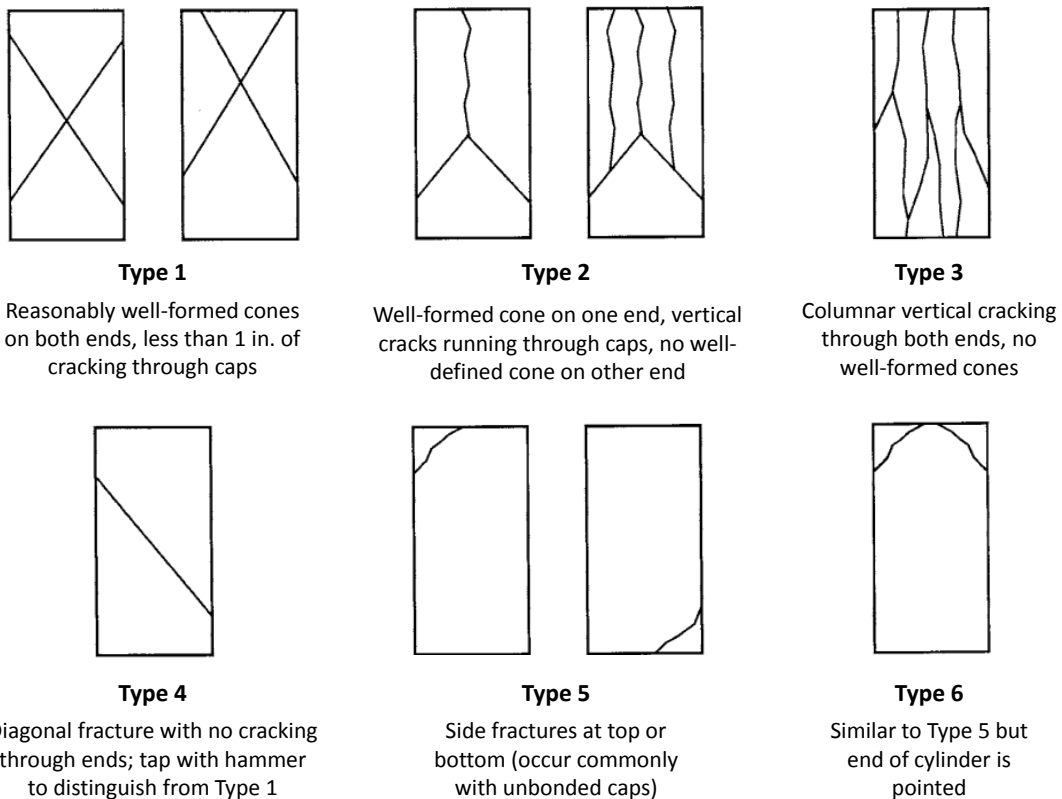

Figure 1 - Schematic of Typical Fracture Patterns
- 5.4.8. Record the maximum load carried by the sample during the test and note the type of fracture pattern (refer to Figure 1).
If the fracture pattern is not one of the typical patterns shown in Figure 1, record a description of the failure pattern. The fracture pattern should also be documented with a camera.
- 5.4.6 *To begin the test, click and hold "Jog Advance" to raise the testing table. Hold "Jog Advance" until the top of the cylinder or core is less than 1/8 in. from the upper test platen. Click the "Start Test" button to begin the compression test. The test machine will automatically apply the specified preload then begin applying load at the rate specified in Article 5.4.6. After the test is complete and the sample is failed, choose the image corresponding to the correct failure type of the sample (Figure 1). Click and hold "Jog Retract" to reset the test machine for the next sample. To perform additional tests, repeat these provisions as needed.*